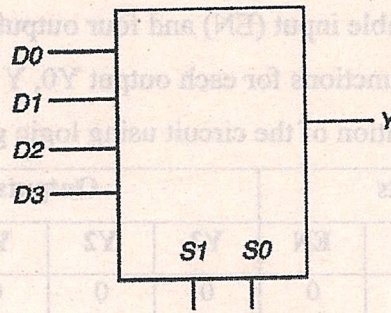

Figure 5
- I. A 4 to 1 multiplexer has four data inputs (D0, D1, D2, D3), two select inputs (S1, S2) and one output (Y) as shown in Figure 5. All the input D's and S's can only take Boolean values.